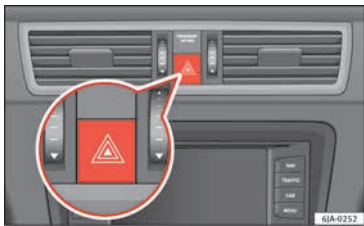

Fig. 133 Instrument panel: switch for hazard warning lights.
- Press the button  **»» Fig. 133** to switch the hazard warning lights on or off.